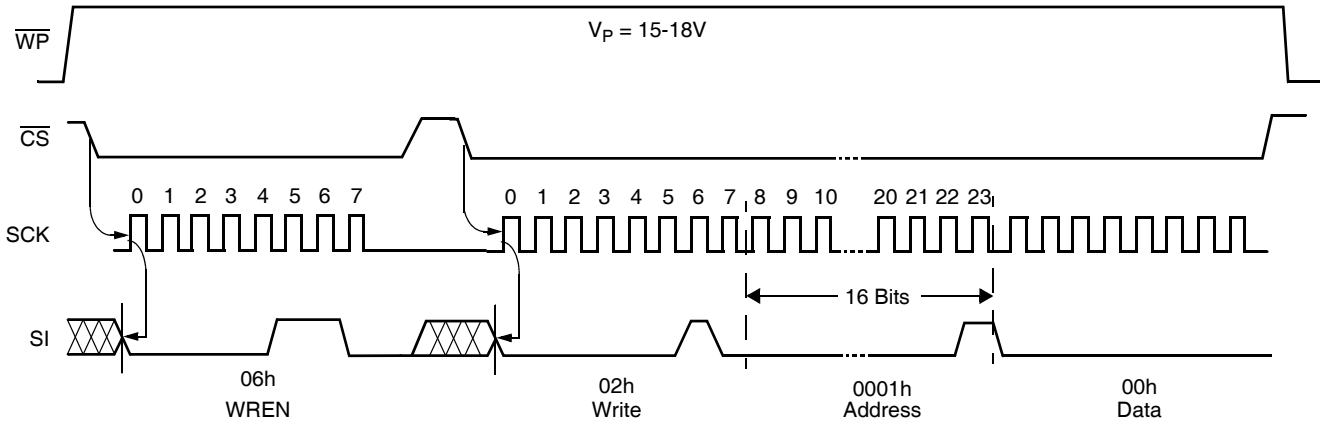

FIGURE 1. SET  $V_{TRIP}$  LEVEL SEQUENCE ( $V_{CC} = \text{DESIRED } V_{TRIP} \text{ VALUE}$ )
0000 0001	<p>Write status instruction—followed by:  Block lock/WDT byte: (See Figure 1)                      000WD1 WD2000 ---&gt;no block lock: 00h-00h---&gt;none of the array                      000WD1 WD2001 ---&gt;block lock Q1: 0000h-00FFh---&gt;lower quadrant (Q1)                      000WD1 WD2010 ---&gt;block lock Q2: 0100h-01FFh---&gt;Q2                      000WD1 WD2011 ---&gt;block lock Q3: 0200h-02FFh---&gt;Q3                      000WD1 WD2100 ---&gt;block lock Q4: 0300h-03FFh---&gt;upper quadrant (Q4)                      000WD1 WD2101 ---&gt;block lock H1: 0000h-01FFh---&gt;lower half of the array (H1)                      000WD1 WD2110 ---&gt;block lock P0: 0000h-000Fh---&gt;lower page (P0)                      000WD1 WD2111 ---&gt;block lock Pn: 03F0h-03FFh---&gt;upper page (PN)</p>